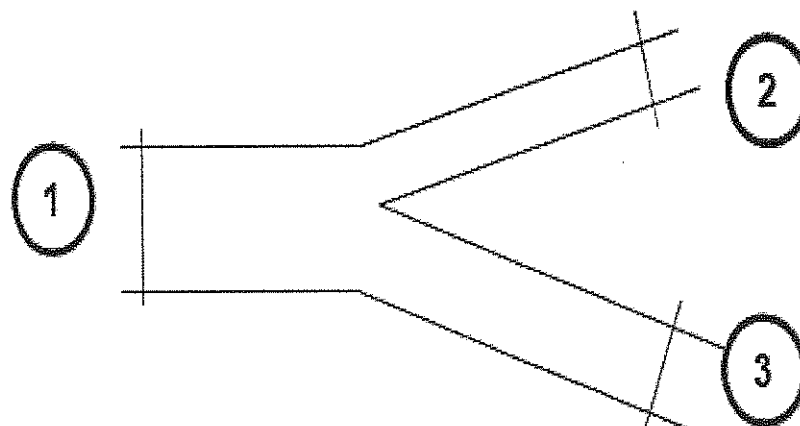

Figure 2b Water Pipe System
- (b) Water enters the UPVC pipe as shown in Figure 2b below at 30 L/s and then branches into two. The main pipe diameter is 100 mm (point 1) and the branch pipes are 80 mm (point 2) and 100 mm (point 3) in diameter respectively. The volume flow rate for branch 3 is 60% of the total rate. Determine the